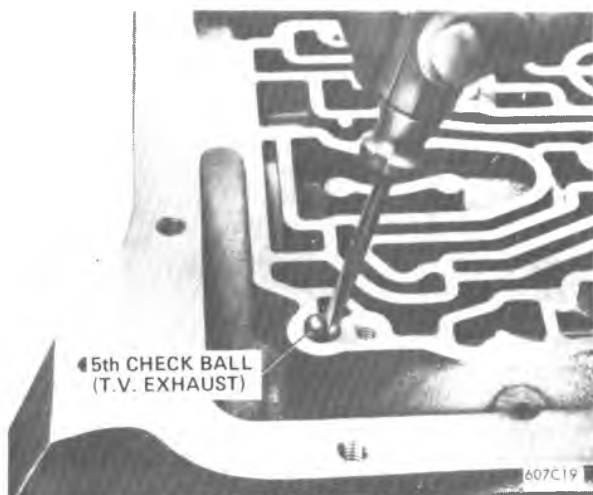

Figure 7A1-22 Removing 5th Check Ball
a. Remove lead wire from electrical connector and from solenoid wire clip. (Figure 7A1-24A)